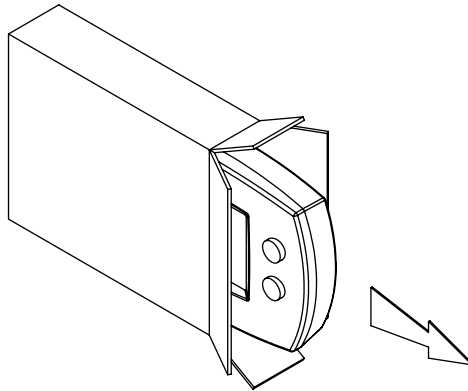

Figure 2
Step 2: Remove the Setback Control from its packaging, and inspect it for any damage that occurred during shipping. This is shown in Figure 2.